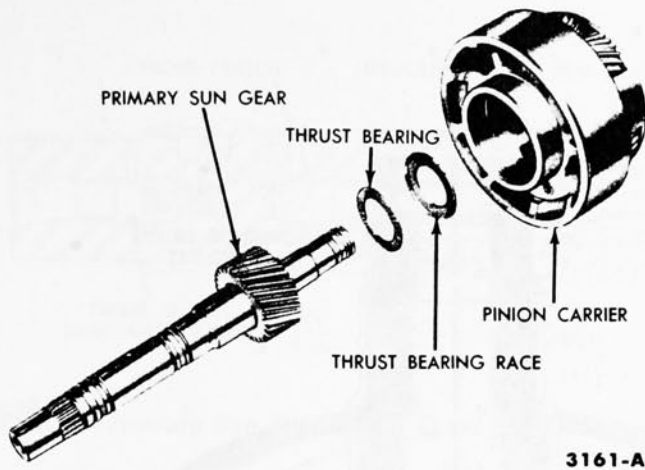

FIG. 5—Primary Sun Gear Rear Thrust Bearing
13. Remove the primary sun gear rear thrust bearing and race from the pinion carrier (Fig. 5).